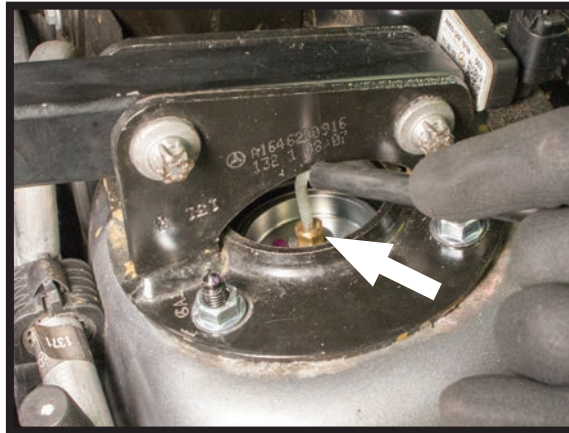

FIGURE 13
7. REMOVE THE PLASTIC SHIPPING PIN FROM THE AIR INLET FITTING, PUSH THE AIR HOSE IN UNTIL FULLY SEATED INTO PLACE (AIR LINE WILL NOT PULL OUT WHEN INSERTED PROPERLY). (FIGURE 13)